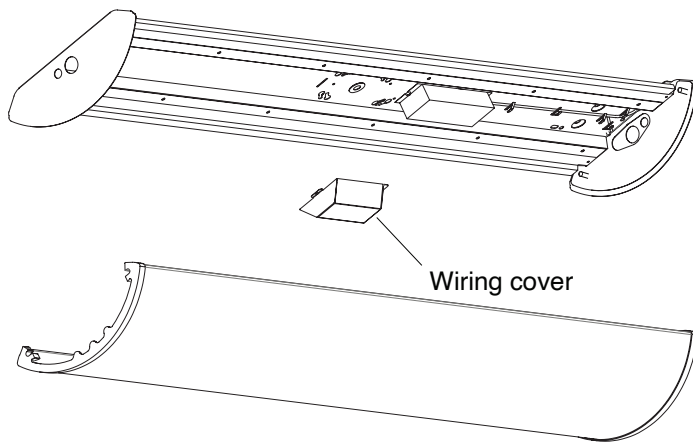

FIG.1
2. Detach the lens and wiring cover from the fixture. (Figure 1)